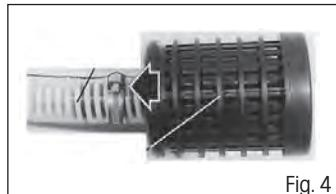

Fig. 4
- ❖ The hose must be equipped with a suction strainer with a non-return valve. The strainer must be properly fixed with a clamp (fig.4). This will prevent the hose from aeration and foreign particles from penetrating into the pump impeller.